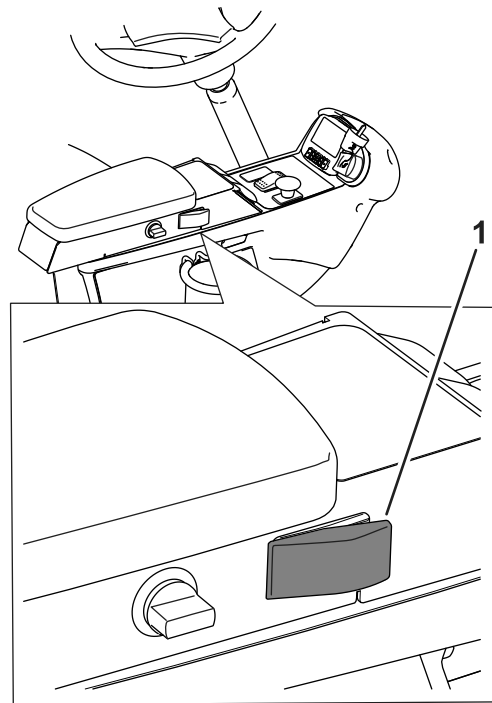
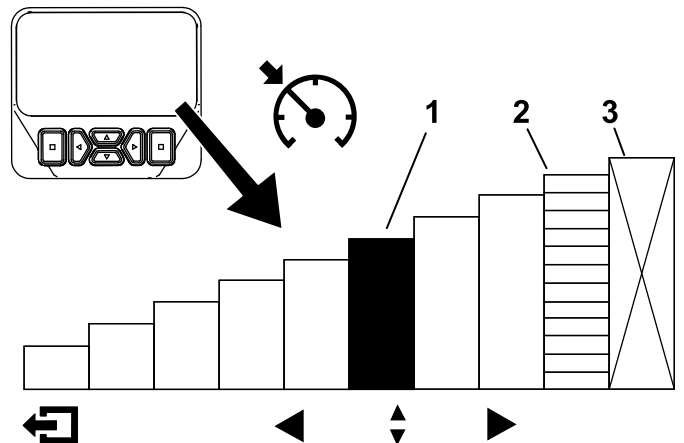

Figure 33
Figure 34
After the cruise control switch is enabled and the speed is set (Figure 33), use the InfoCenter to adjust the speed setting of the cruise control (Figure 6 and Figure 34).
1. Enable the cruise control switch on the console (Figure 33).
2. Use the InfoCenter display to adjust the speed setting of the cruise control (Figure 34).